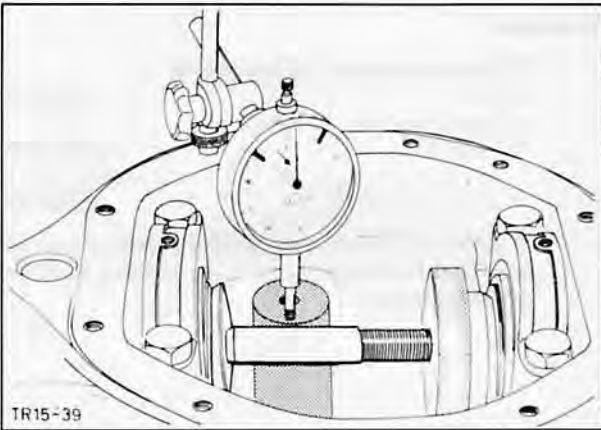

Fig. 37. Adjust master pinion
20. Set up master pinion. To do this, locate dial indicator on outer edge of master pinion end close to the gauge bar. Rotate master pinion slowly through one full turn and observe total deflection of dial pointer, Fig. 37. Then continue turning master pinion until dial indicator reading is half the total deflection measured. Master pinion must not be turned any more after this operation.